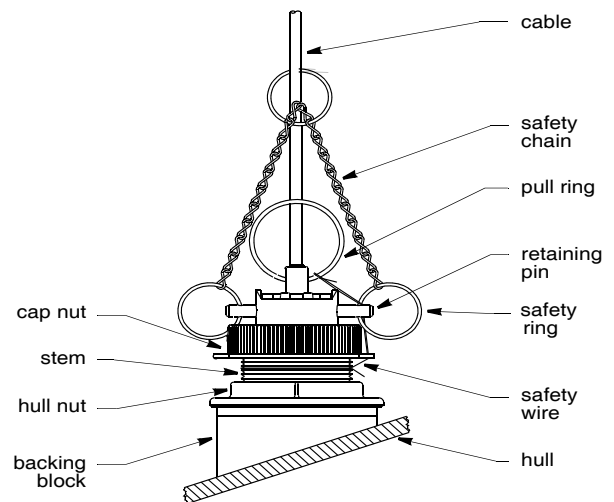

Figure 2. Installation with chain (B744V shown)
2. Remove the safety wire and unscrew the cap nut. With the blanking plug ready in one hand, remove the paddlewheel insert and valve assembly as one unit by grasping the pull ring and pulling upward. Rapidly insert the blanking plug to minimize the flow of water into the boat. TEMPORARILY hold the plug in place with the safety wire (see Figures 2 and 3).
10. Slide the paddlewheel insert into the valve assembly. Seat it into place with a twisting motion until the keys fit into the notches. Secure the paddlewheel insert with the retaining pin and safety ring(s) (see Figures 2 and 3).
12. Always attach the safety wire to prevent the insert from backing out in the unlikely event that the cap nut and/or insert nut fails or is screwed on incorrectly. Reattach the safety wire (see Figures 2 and 3).